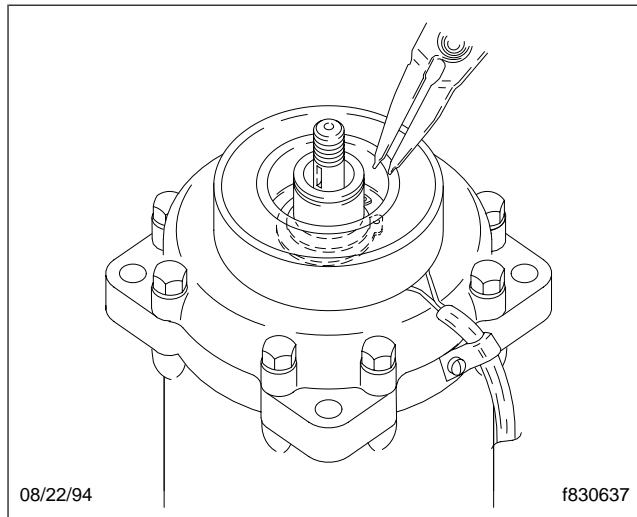

Fig. 6, Remove the Snap Ring
- 8.3 Remove the snap ring (Fig. 6); then, remove the coil assembly.